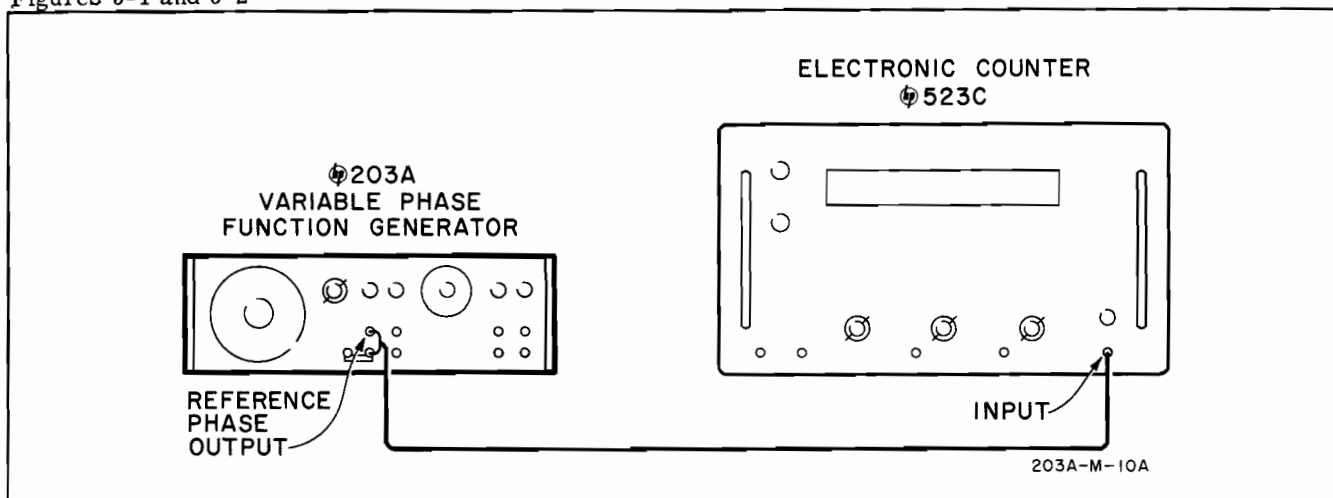

Figure 5-1. Frequency Dial Calibration
d. Connect Model 203A as shown in figure 5-1.
- a. Connect Model 203A as shown in figure 5-1.